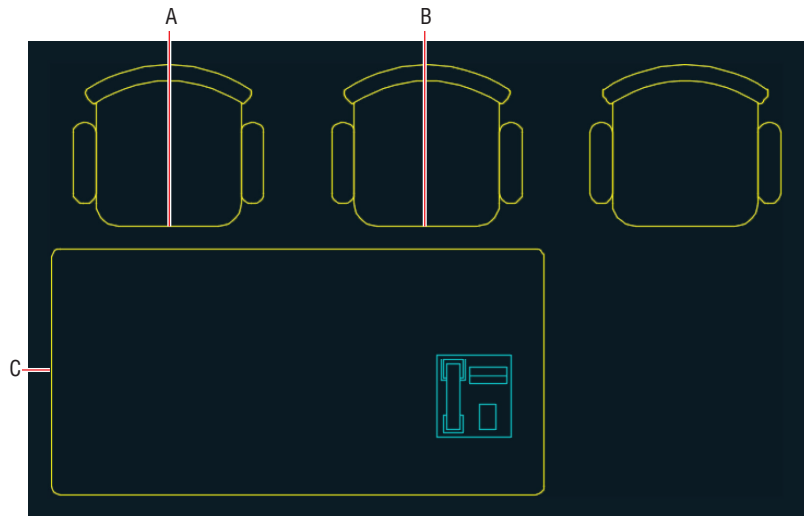

FIGURE 7.25 Copying a chair
6. Click the Copy tool on the Modify panel, select the chair on the right in the middle room, and press Enter. Snap to the midpoints at points A and B shown in Figure 7.25 and press Enter. A third chair is copied so that all three are equidistant.
7. Click the Mirror tool on the Modify panel, select the three chairs in the middle room, and press Enter. Click point C shown in Figure 7.25, move the cursor to the right, and, with Ortho selected, click in the drawing canvas to complete the mirror line. Press Enter to mirror three more chairs on the opposite side of the desk.